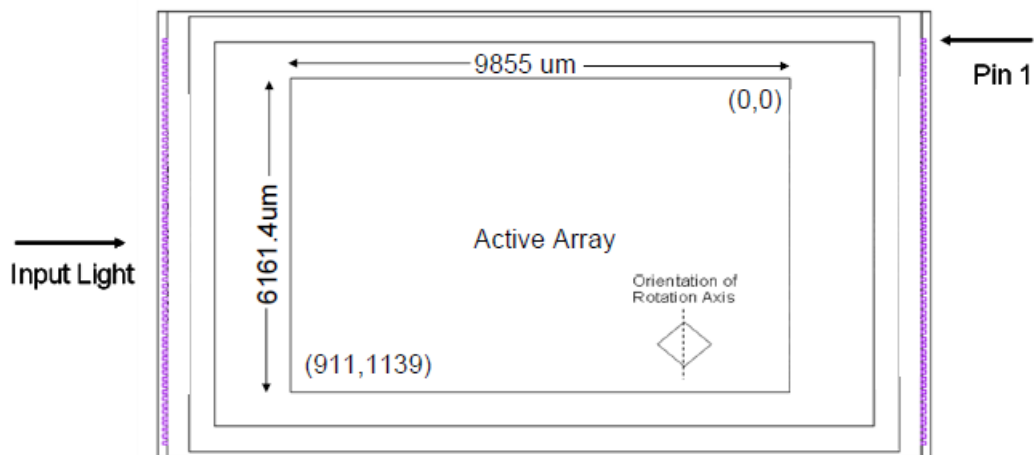

Figure 5. DLP4500NIR Micromirror Active Area
(1) See Micromirror Array, Pitch, and Hinge-Axis Orientation.
(2) See Micromirror Active Area in Figure 5.
(3) The mirrors that form the array border are hard-wired to tilt in the -12° ("Off") direction once power is applied to the DMD (see Micromirror Array, Pitch, and Hinge-Axis Orientation and Micromirror Landed Positions and Light Paths).